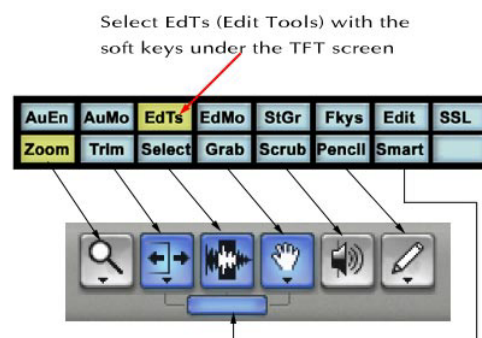

Figure 5 - Edit Tools in the Pro Tools Edit Window with corresponding AWS 900 controls.
- With the Selector tool (see Figure 5), click in the track where you want playback to begin.